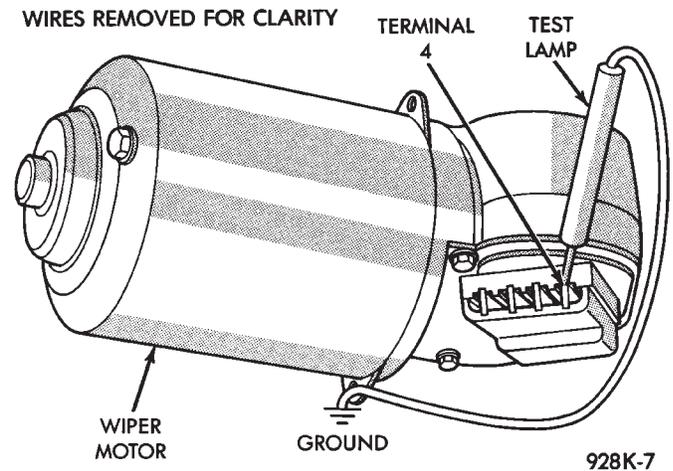

Fig. 12 Test Lamp Between Terminal 4 and Ground
(1) If motor will not run on high speed, put switch in HIGH position and connect a test lamp between motor Terminal 4 and ground (Fig. 12).